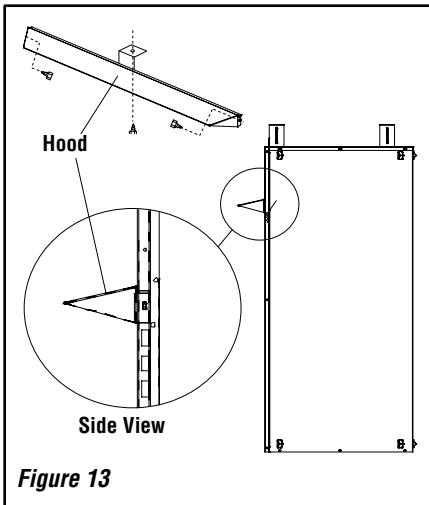

Figure 13
NOTE: A hood comes standard and is required for model VTR2536WS. The factory-supplied hood must be installed on the firebox for safe operation for model VTR2536WS in all installations (this part is optional for other models). See Figure 13.
Step 2. Align the hood with the holes in the side frames as shown in Figure 13. Install three screws as shown in Figure 13. Make sure hood is level and secure.